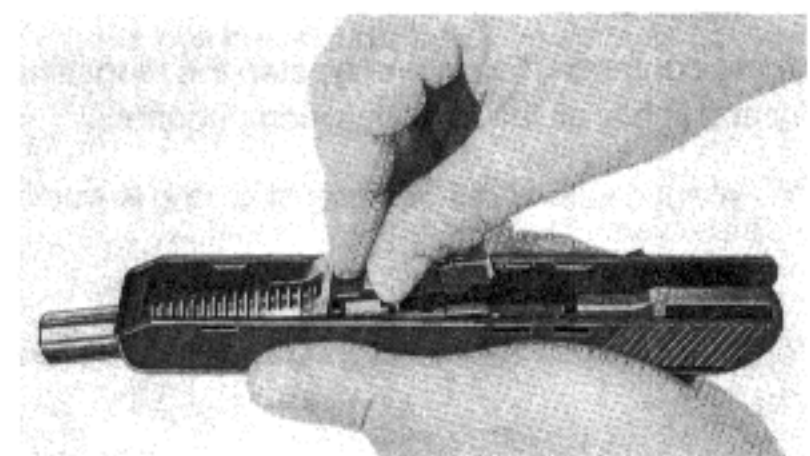

Fig. 4
- Remove the barrel by pushing it forwards against the pressure of the spring until it can be lifted rearwards and upwards out of the slide (Fig. 4).